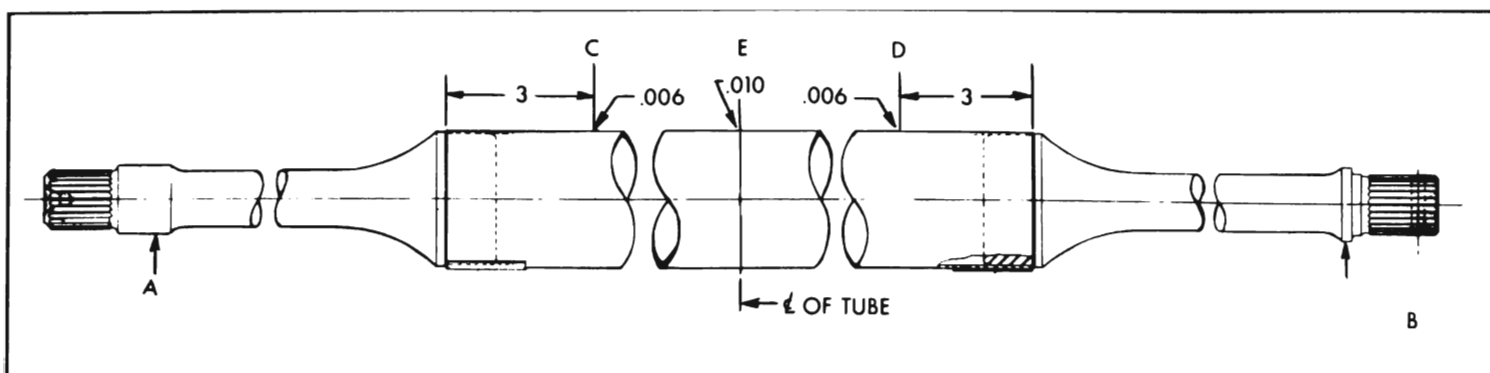

Figure 6-15—Front Propeller Shaft Run-Out Specifications
1. Support front of propeller shaft on a V-block placed under the seal surface at "A." Support rear of propeller shaft on a V-block placed under the shoulder at "B." See figure 6-15.